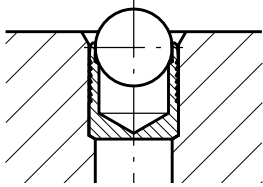

Fig. 1
- › With the ball facing out the KOENIG-EXPANDER® is inserted in the counterbored hole. The top sleeve should not be above the surface of the base material (Fig. 1).